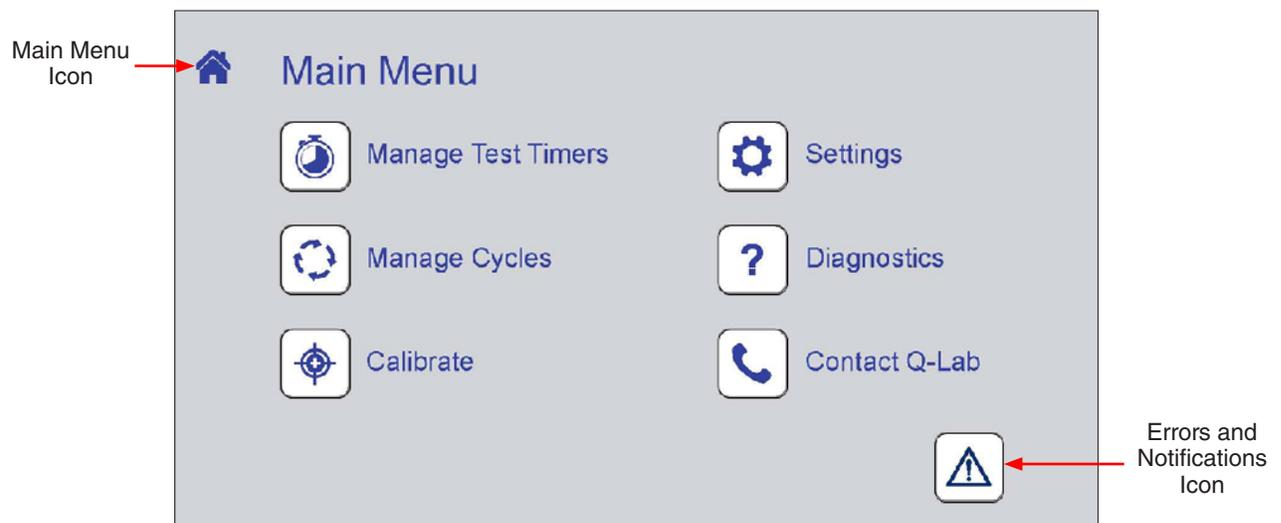

Figure 11.4: Main Menu screen.
- The Main Menu is the home display for the menu screen (Figure 11.4).